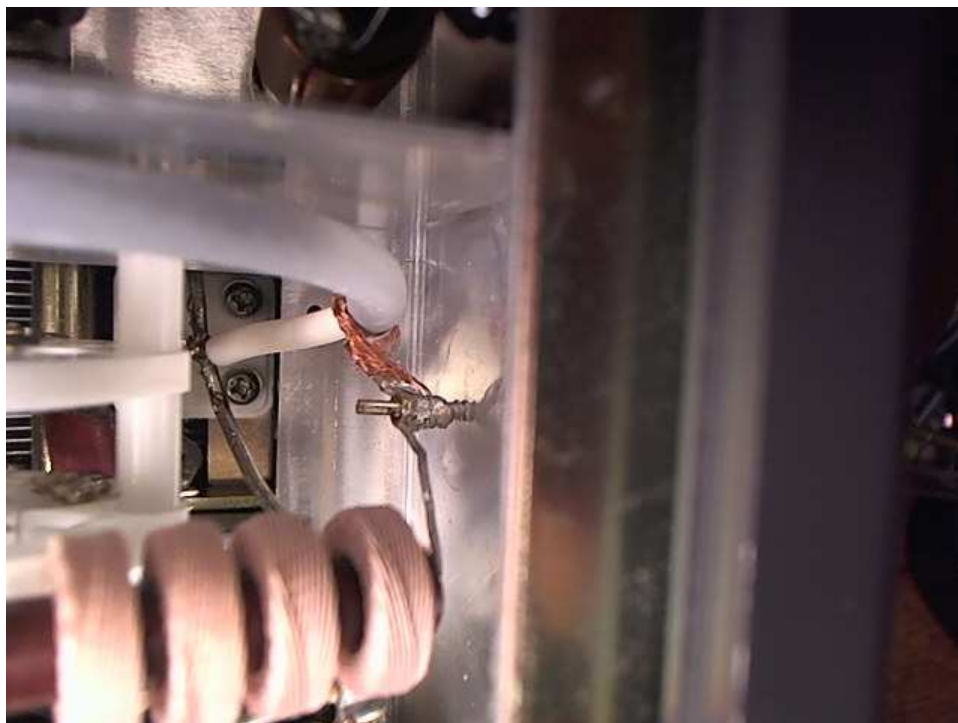

Figure 2.17: QRO Output to Coax Connection
- Solder the coaxial center conductor to the RF output. (Near the bottom of the load capacitor as shown in Figure 2.17).